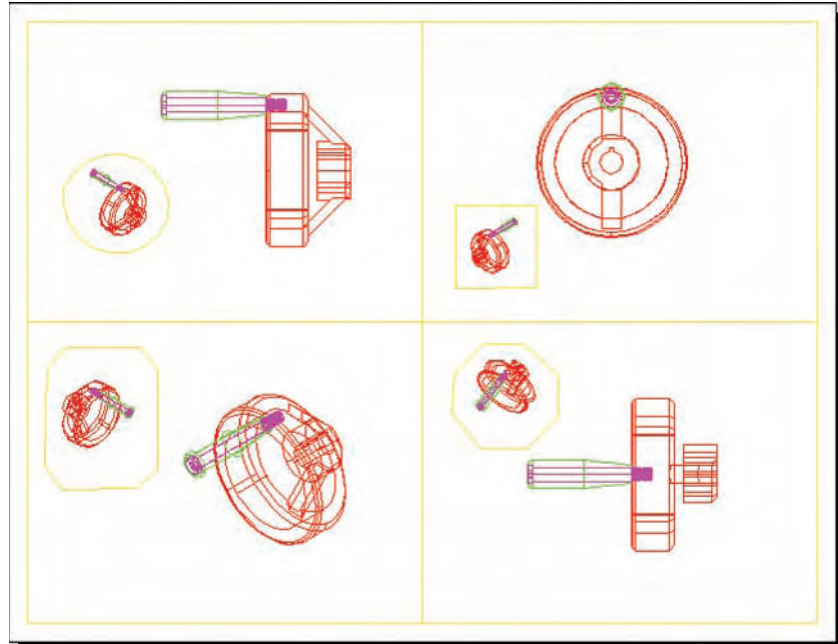

Fig. 19.11 Polyagonal viewports – plot preview
Polygonal viewports (Fig. 19.11)
9. Repeat in each of the viewports with different shapes of polyagonal viewport outlines (Fig. 19.11).